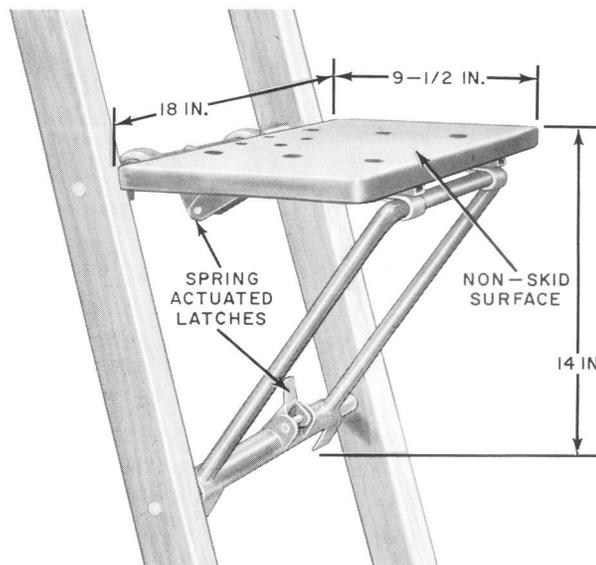

Fig. 1—C Ladder Platform
2.01 The C Ladder Platform (Fig. 1) consists of a wood seat hinged to a welded pipe frame. The rear edge of the seat and the bottom crossmember of the frame are equipped with spring-actuated latches to automatically lock the platform to the ladder rung. ♦The upper surface of the seat has a nonskid finish which provides protection against slipping while working or changing position.♦